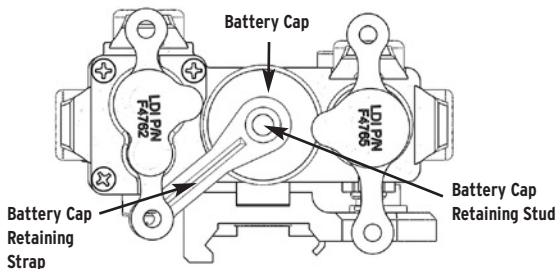

Figure 2. Battery Cap Replacement
1. Unscrew Battery Cap (Figure 2) by turning counter clockwise.
2. Pull Battery Cap Retaining Strap (Figure 2) off over the Battery Cap Retaining Stud (Figure 2) located on the Battery Cap (Figure 2).
1. Stretch the end of the Battery Cap Retaining Strap (Figure 2) over the Battery Cap Retaining Stud (Figure 2) located on the Battery Cap (Figure 2).
2. Replace Battery Cap (Figure 2) by turning clockwise to tighten.